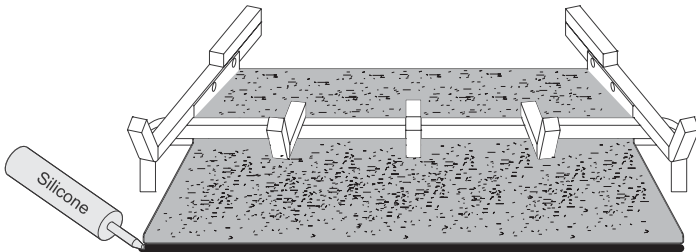

Figure 17
1. Pour the provided sand (Note: use rockwool mix for Liquid Propane appliances) over the entire burner, filling the burner pan. The sand (rockwool mix) should follow the slope of the burner pan, covering the burner completely. See Figure 17.